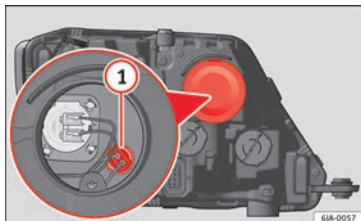

Fig. 89 Changing side light bulbs.
- Remove the protective cover » **Fig. 89**.
- Remove the bulb holder » **Fig. 89 1** by pulling it outwards.